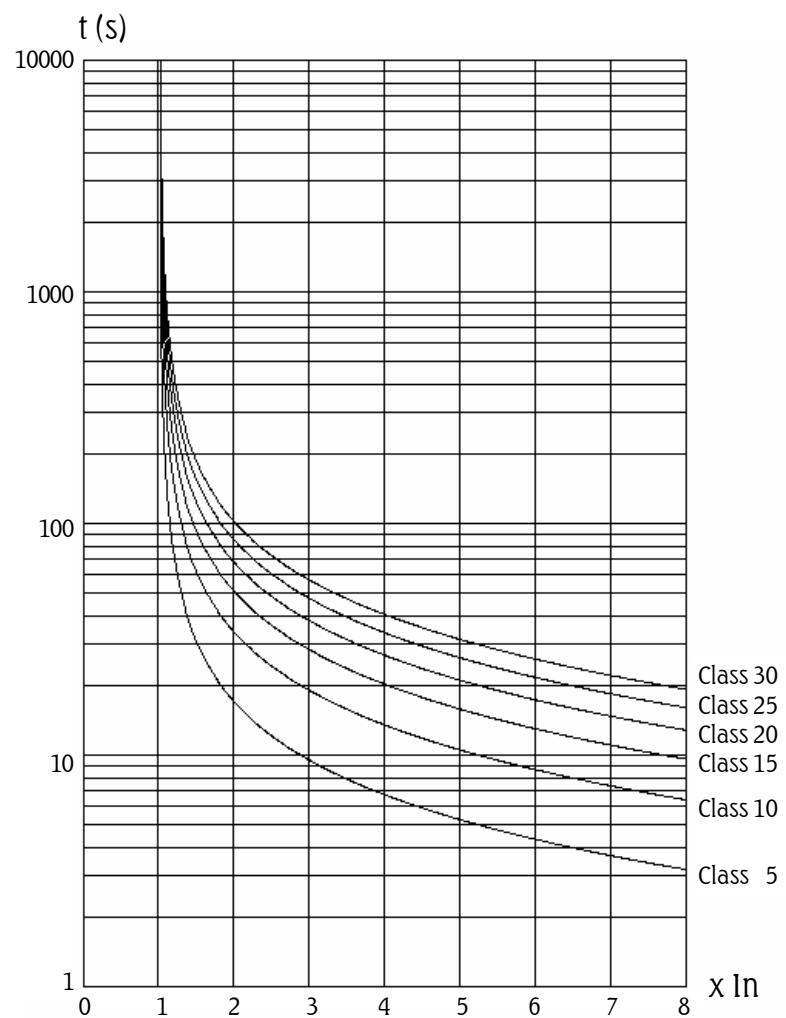

Figure 6.10 - Thermal Classes for Cold Motor Protection
- ☑ If a Service Factor different from 1.00 is used, the nominal current for the chart (figure 6.10) has to be corrected by the S.F. For example: a motor of $I_n=100A$ and $S.F.=1.15$ has $1 \times I_n=115A$.
1) In the cold chart Figure 6.10, we can find the minimum required Thermal Class that allows motor start with reduced voltage: